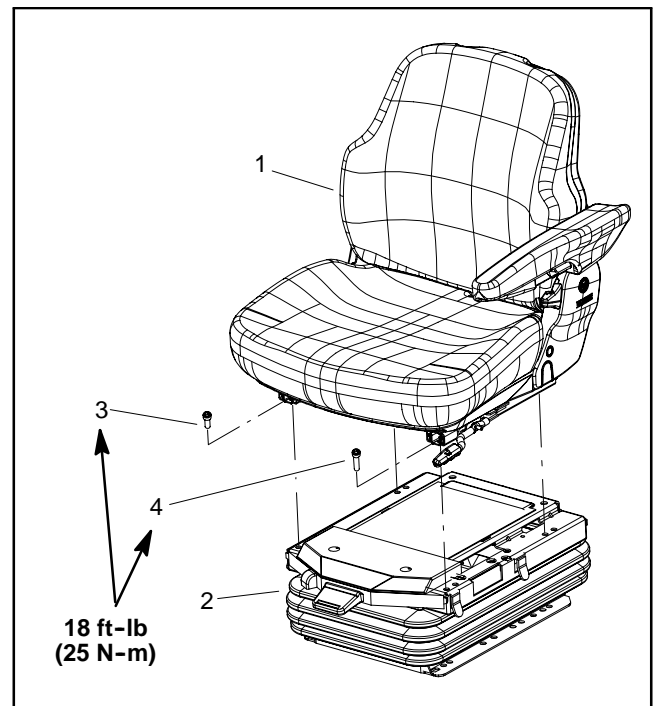

Figure 7
B. Remove four (4) Torx head screws that secure seat to seat suspension (Fig. 7). Note that the screw near the seat adjustment handle is longer than the other three (3) screws.
B. Secure seat suspension and two (2) wire harness r-clamps to seat platform with four (4) cap screws and flange nuts.
B. Secure seat to seat suspension with four (4) Torx head screws (Fig. 7). Make sure that longer screw is positioned near the seat adjustment handle.